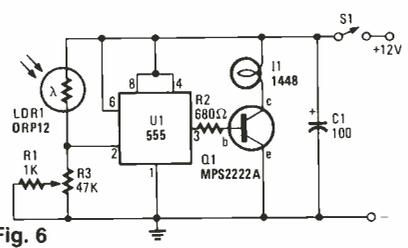

Fig. 6
M.F. of Ogdensburg, UT, wants to update his car by adding an automatic parking light that will come on when dusk falls. Figure 6 is just such a circuit.